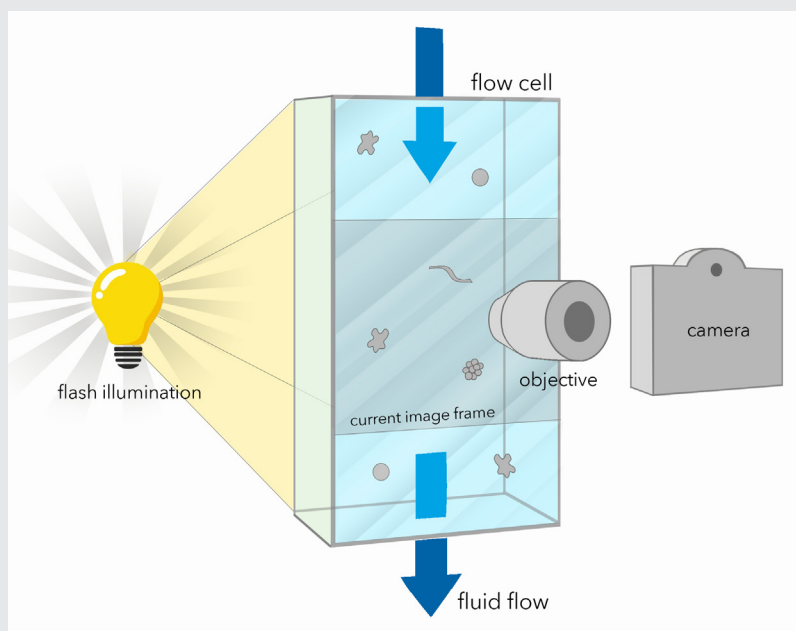

Fig 2. Schematic diagram of FlowCam imaging technology
- A syringe pump pulls the sample through the flow cell. Particles are back lit using flash illumination to prevent motion blur during image capture (Fig. 2).